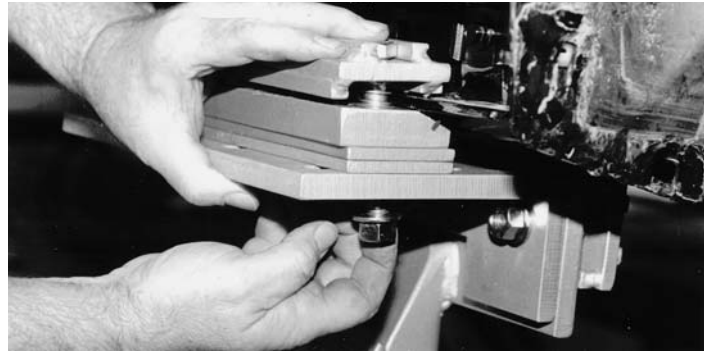

Figure 10
7. Raise vehicle slightly to allow installation of horizontal clamp. Attach clamp half to the anchoring assembly using appropriate bolts, nuts, washers and springs. Tighten snug only! During this procedure, engage clamp with horizontal pinchweld making sure the groove in the Adapter Plate is completely under the pinchweld. (See Figure 10.)